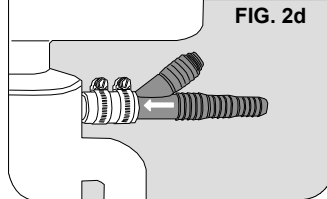

FIG. 2d
6. Point arrows of ET116-001 toward disposal and slide barbs into the remaining one inch of the hose coupler until firmly seated against the disposal nipple. Orient the "wye branch" in a vertical position to receive the RO drain tube. Tighten both hose clamps securely over hose coupler so that the ET116-001 is secure on disposal. (See Fig. 2d)